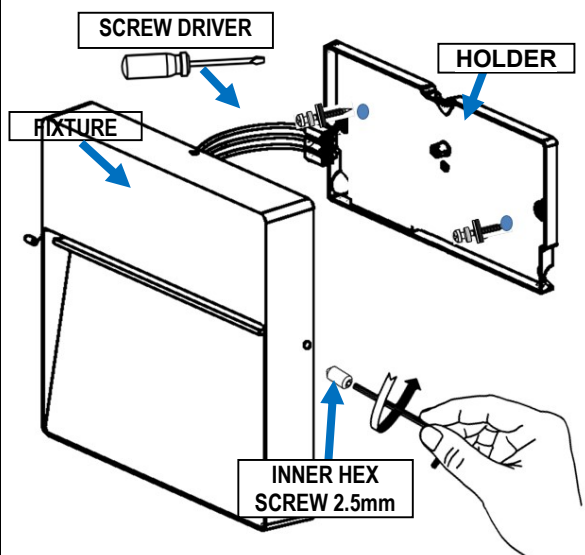

Fig.6
- Separate The Holder from the FIXTURE (Fig.6).
- Fix the mounting plate on installation position by four M3.5x35mm Screws (Fig.6).